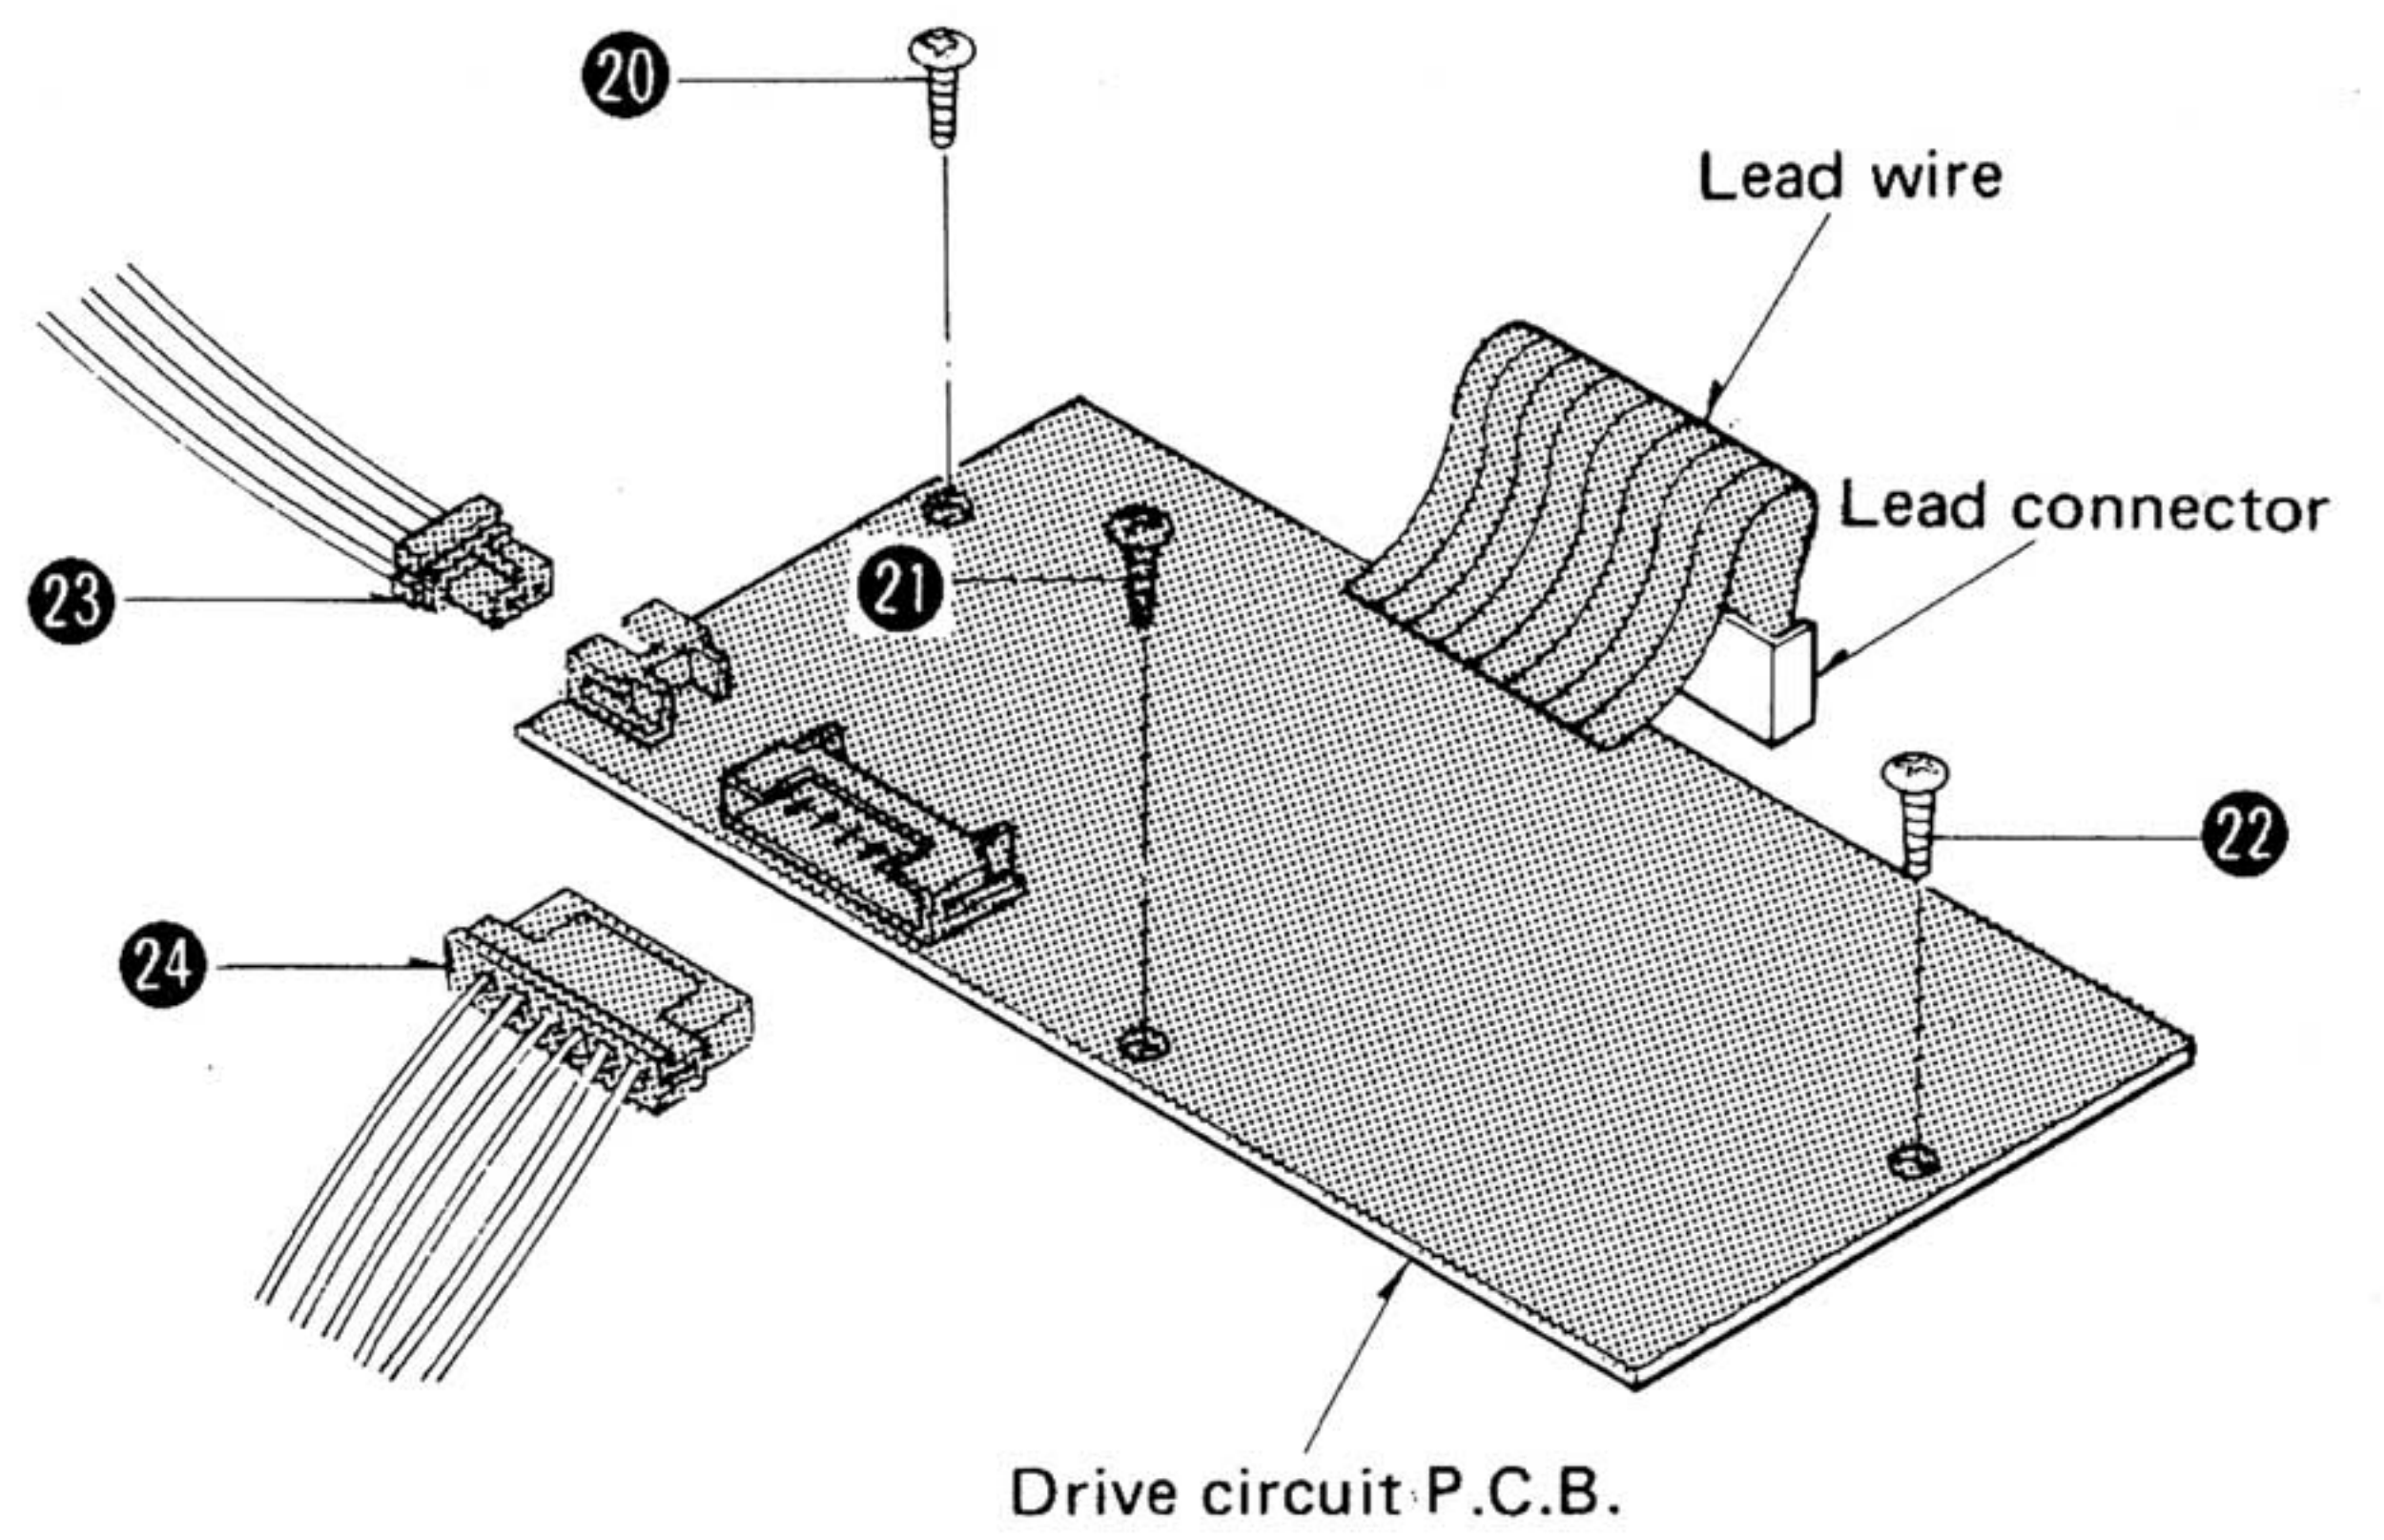

Fig. 4
3. Remove the drive circuit P.C.B. setscrews ⑳ ~ ㉒ and connectors ㉓ and ㉔. Then the drive circuit P.C.B. can be removed. (See Fig. 4)